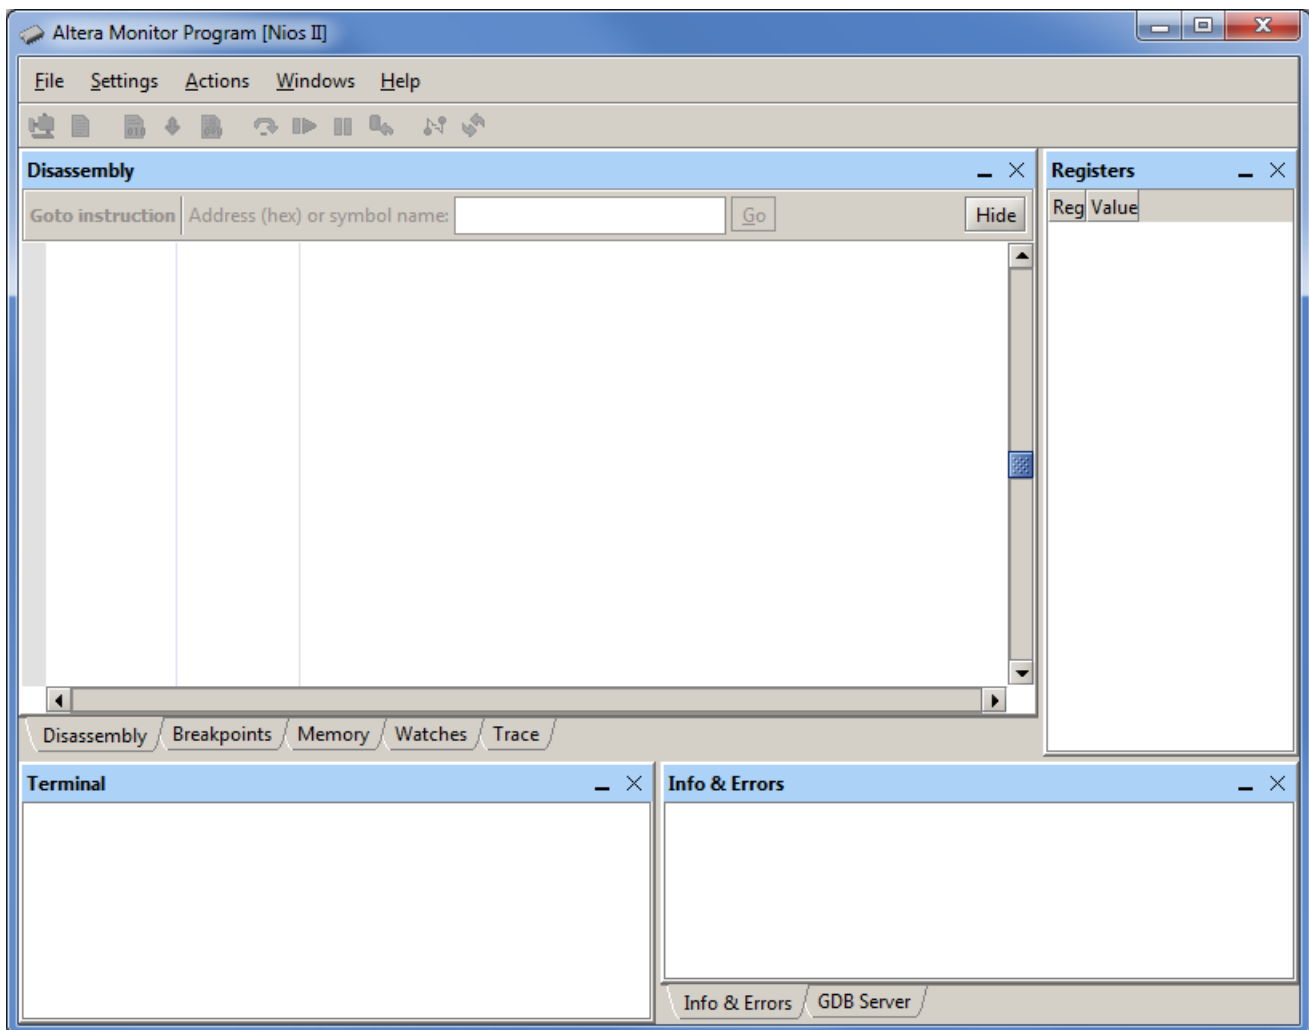

Figure 26. The Altera Monitor Program main window.
Open the Altera Monitor Program, which leads to the window in Figure 26.
9. Now, in the monitor window in Figure 26 select Actions > Compile & Load to assemble (compile in the case of a C program) and download your program.